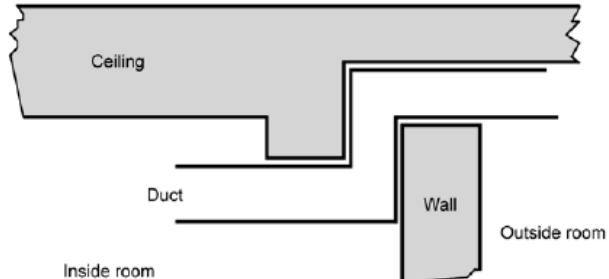

Fig. 4.5. Concrete baffle used to accommodate duct.
- (3) use the concrete shielding as a baffle, as shown in Figure 4.5. Here two parallel, overlapping sections of concrete provide a vertical "mini-maze." For this arrangement to be successful, the degree of overlap *should* be as large as possible.